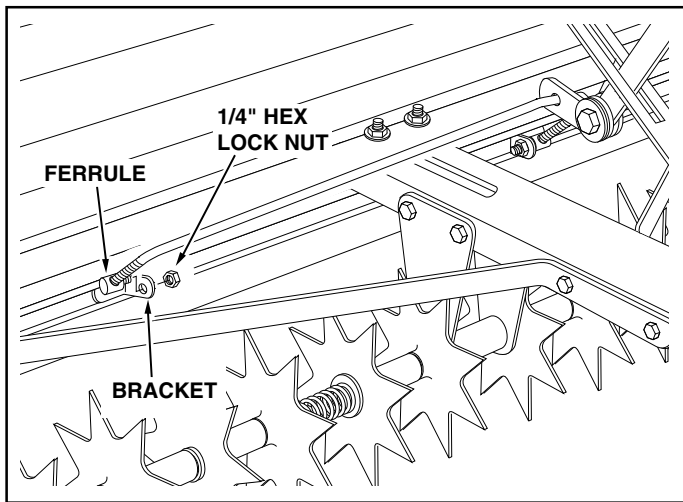

FIGURE 7
15. Check that both ferrules are adjusted so that approximately ten threads (1/2") of the control rod is exposed. Insert both ferrules into the brackets which are riveted to the front of the flow plates. Assemble a 1/4" hex lock nut onto each ferrule, making only **finger tight** at this time. See figure 7.